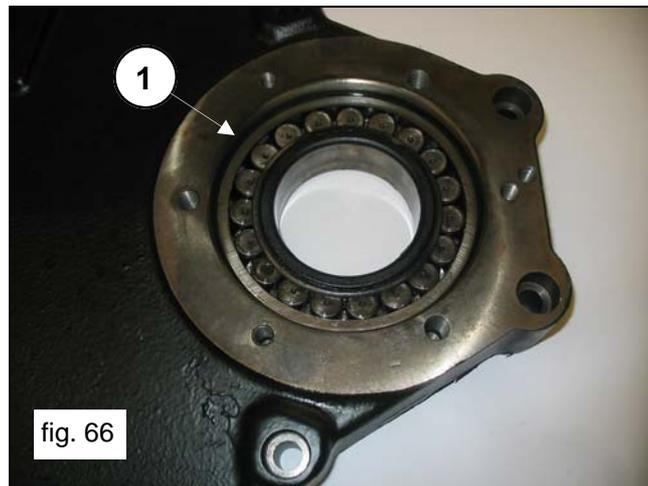

fig. 66
Assemble the bearing on the reducer cover (pos. ①, fig.66).